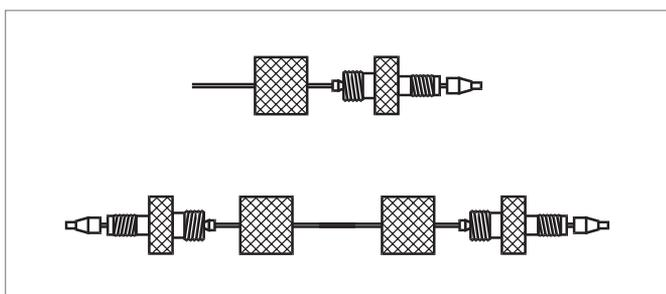

Figure 5. Single and double SLIPFREE connectors.
1. Alternatively, replace the conventional compression screw fitting with an all-in-one PEEK fitting (Waters p/n: 186008714) that allows resetting of the ferrule depth. Another approach is to use a Keystone, Inc. SLIPFREE® connector to always ensure the correct fit. The fingertight SLIPFREE connectors automatically adjust to fit all compression screw type fittings without the use of tools (Figure 5).